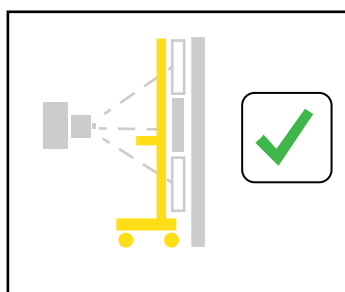

Fig. 4-40 Patient protection
4. Verify that the patient protection is placed in front of the wallstand by pressing the *green check* button on the display, see **Fig. 4-40**.